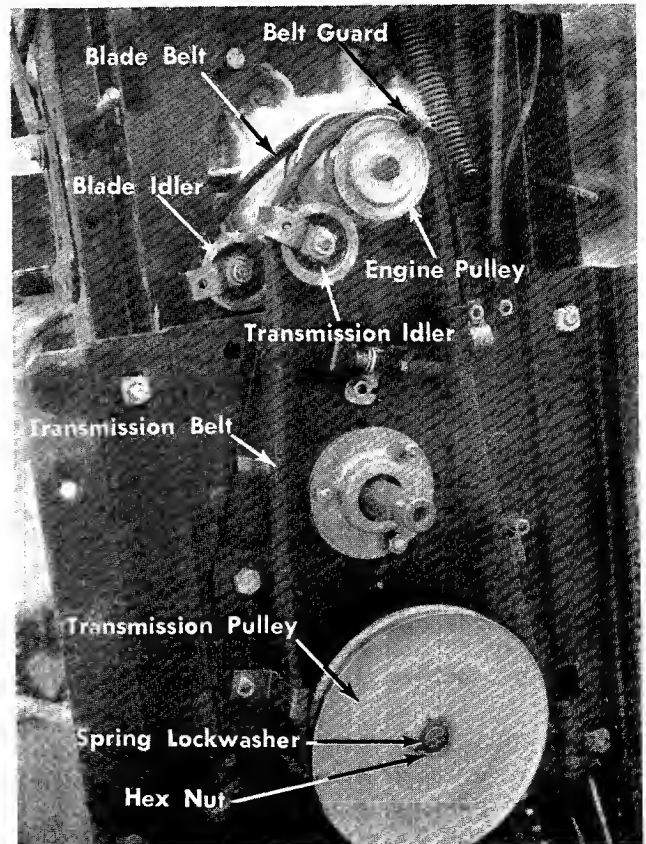

FIGURE 19. BELT SYSTEM
Step 4. Remove the transmission belt from the engine pulley. It may be necessary to spring the belt guard out of the way. When installing the new belt be sure to put the belt guard back in the original position. See figure 19.
Step 6. Remove hex nut and spring lockwasher on the transmission pulley and slide the pulley out until the belt can be removed. See figure 19.
Step 4. Remove the transmission belt from the engine pulley. See figure 19.
It may be necessary to spring the belt guard out of the way. When installing the new belt be sure to put the belt guard back in the original position. See figure 19.
CREEPING OR BELT WEAR. See figure 19.
DRIVE PULLEYS. See figure 19.
BELT WEAR—Belt Guards and Clips. See figure 19.
CREEPING. See figure 19.